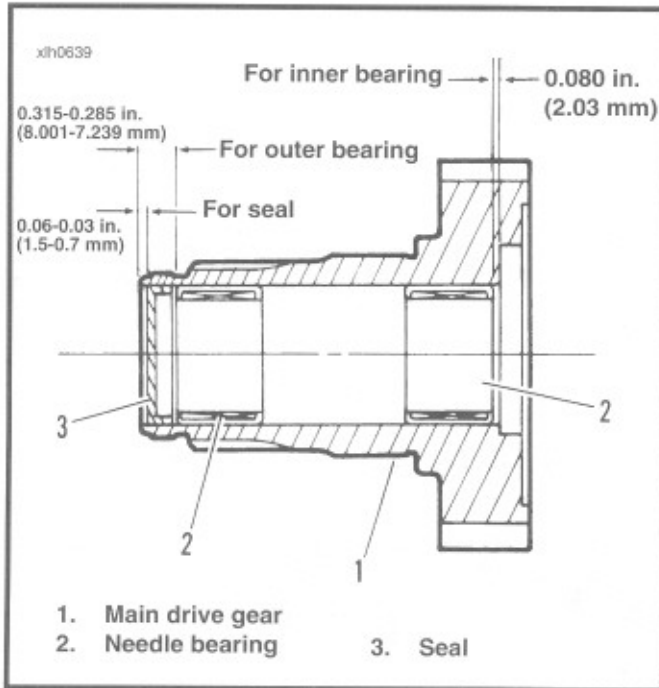
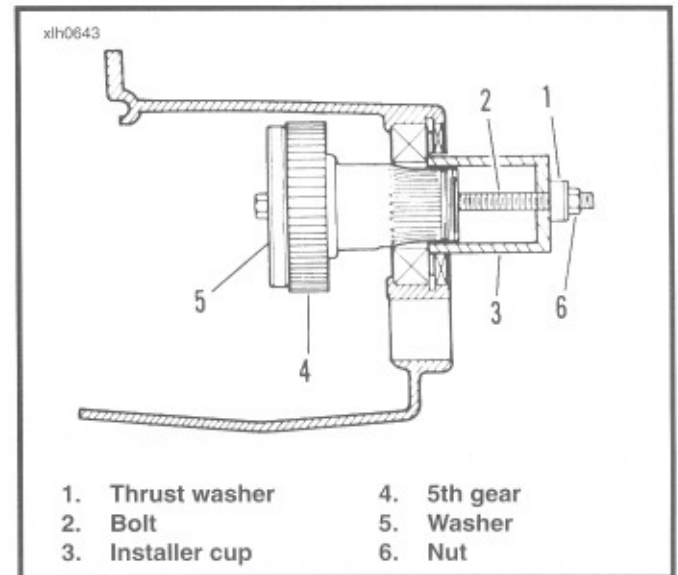

Figure 6-43. Main Drive Gear Assembly
Figure 6-47. Main Drive Gear Installation
2. See Figure 6-43. From inside case tap out seal (3) at end of mainshaft 5th gear (1). Discard seal (3).
2. Use Main Drive Gear Remover and Installer Tool. See Figure 6-47. Take bolt (2) and place washer (5) followed by main drive gear (4) over end of bolt. From inside of case insert bolt and main drive gear through inner race of ball bearing.
3. Insert threaded end of bolt (2) through installer cup (3) and thrust washer (1). Thread nut (6) onto end of bolt (2). Tighten nut (6) until shoulder on gear (4) bottoms against inner race of bearing.
4. See Figure 6-43. Tap in new seal (3) at threaded end of 5th gear.